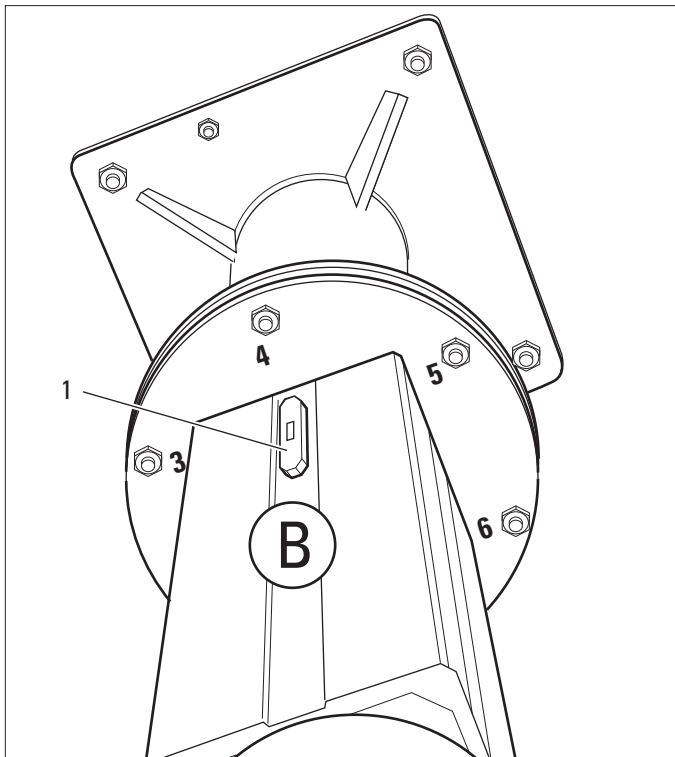

Fig. 1
- ⇒ Place the precision spirit level (1) vertically on Side **B** below Screw 4 at the upper segment of the Telescope Mount (Fig. 1).